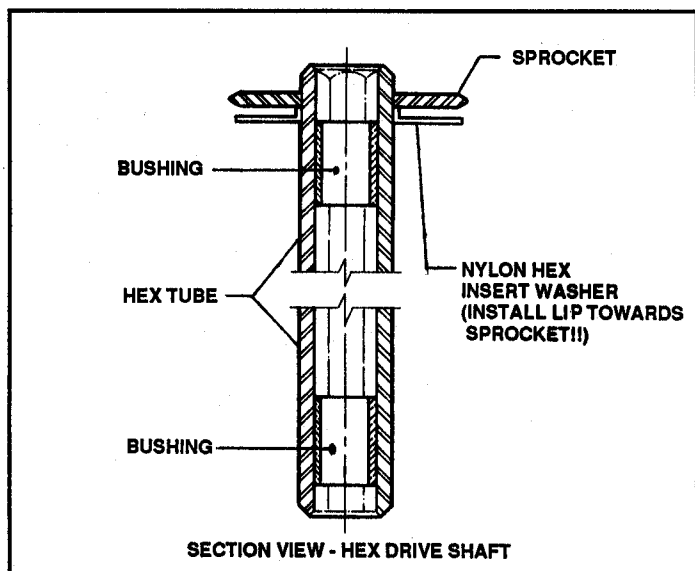

FIGURE 4.27
13. Inspect the hex insert washer for wear before installing hex shaft. Replace if required. (The hex insert washer, being nylon, serves as a bearing surface and also prevents grease from being splashed off the chain into the boot). Also, check the bushings in each end of the hex shaft for wear and placement. Replace hex shaft assembly if bushings are worn. See Figure 4.27.